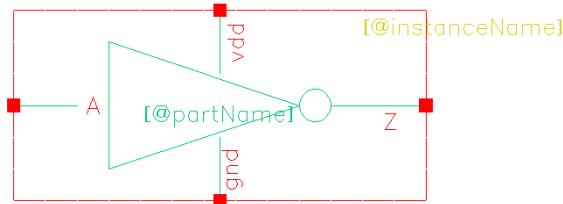

Figure 17: Inverter symbol.
- Shape your symbol how you want it, as depicted in Fig. 17 and Check and Save it. There should be no warnings or errors.